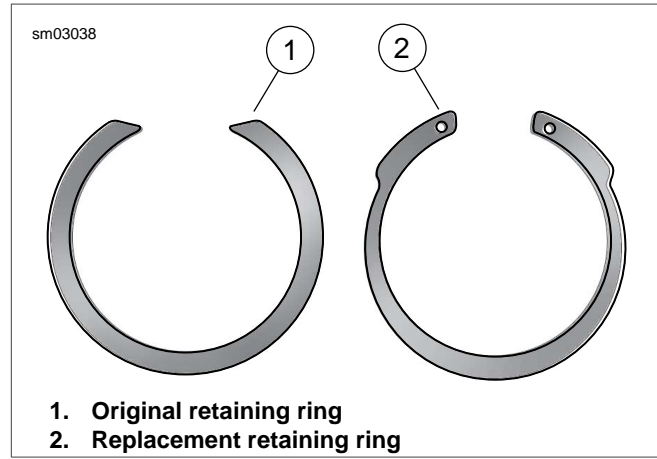

Figure 6-38. Main Drive Gear Retaining Rings
- See Figure 6-38. When replacing needle bearings, discard original retaining rings (1) and install replacement retaining rings (2).